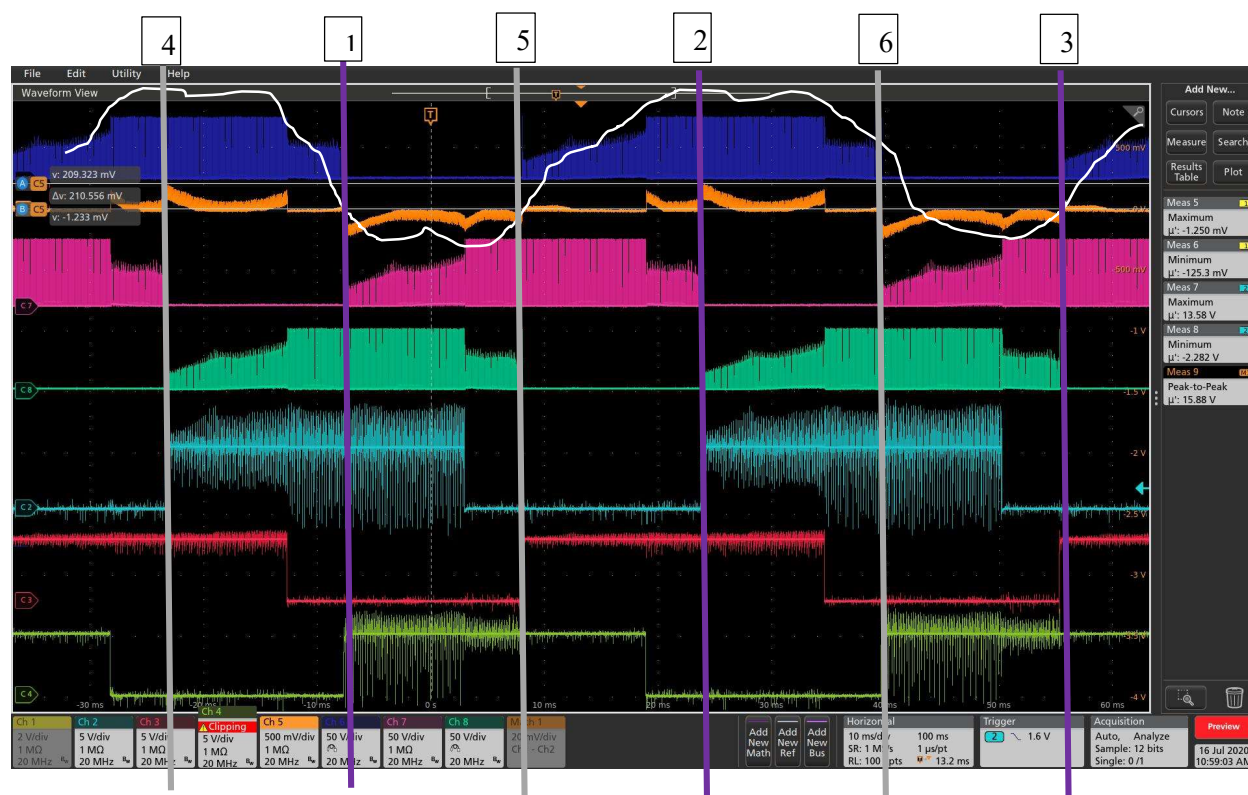

Figure 10-4: Signals from an inverter driven hall sensor motor
The oscilloscope screen capture in the Figure 10-4 shows the measured response from the motor when it is **driven** by the inverter. The screen capture can be used to visualize the response from the motor when the inverter is **not** driving the motor.
Note the hall starting location. Set the scope to Single Sequence and capture the first pulse transition sent from the inverter to the motor. Using the inverter signal shown in Figure 10-4 pg.43 of a motor rotating clockwise as a reference, determine if the PWM pulses are being applied to the correct phase of the motor. If the starting hall signal is 110b (W=1, V=1, U=0), the PWM signal should be on the U(A) phase.